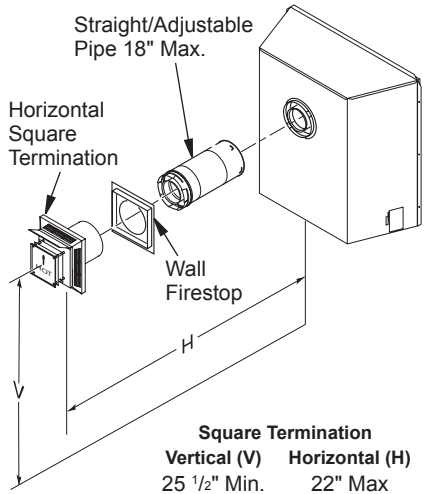

Figure 18 - Horizontal Termination Configuration for Flush Installation (Model (V)(CD)(CDC)36R)
1. Set fireplace in its desired location and determine route your horizontal venting will take. Do not secure fireplace until all venting has been installed. Some installations require sliding fireplace in and out of position to make final venting connections. Figures 18 through 25 on pages 14 through 17 show different configurations for venting with horizontal termination that will help you decide which application best suits your installation. Check to see if wall studs or roof rafters are in the path of your desired venting route. If they are, you may want to adjust location of fireplace.
Figures 18 through 25 show different configurations and alternatives for venting with horizontal termination. Each figure includes a chart with critical minimum and maximum dimensions which MUST be met.